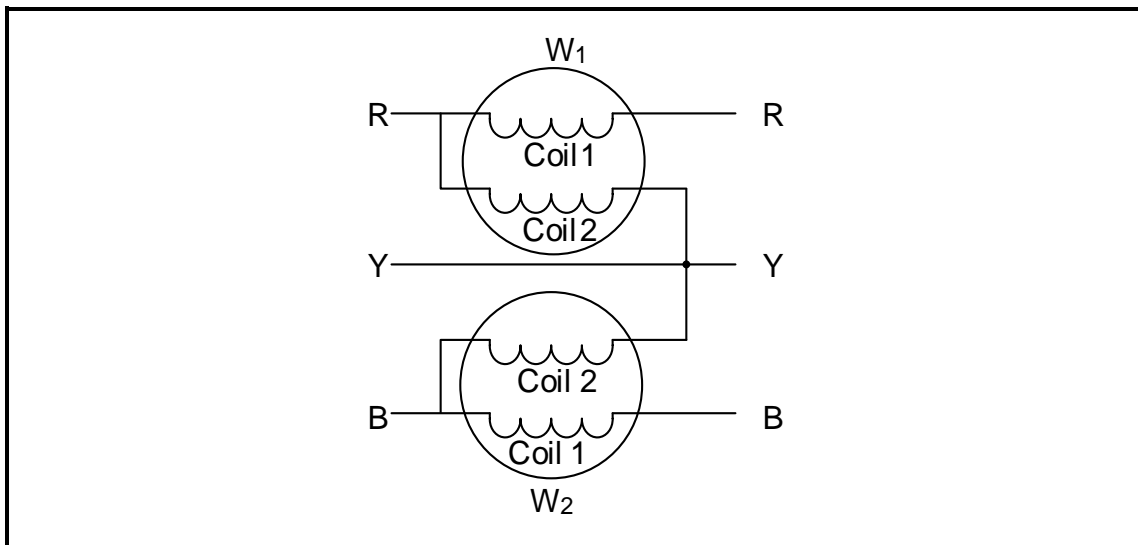

FIGURE 4.6: TWO-WATTMETER METHOD
4.6 Refer to FIGURE 4.6 below and answer the questions that follow. The readings on the wattmeters are $W_1 = 960 \text{ W}$ and $W_2 = 870 \text{ W}$.